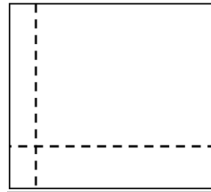

Figure 1: Chalk Lines
- Move the chalk lines to the corner or end of the room farthest from the doorway. These lines should be 2' or 3' from the wall depending on your reach (Figure 1).